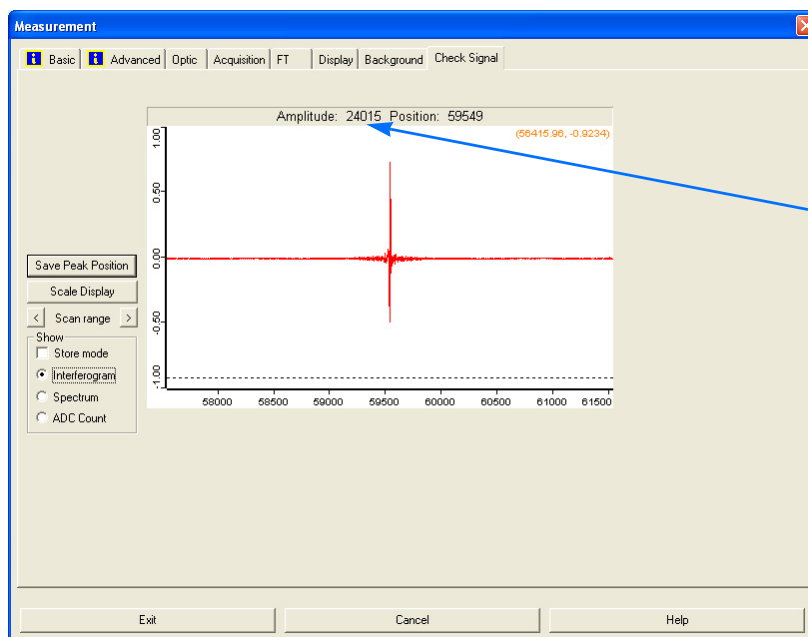

Figure 4: Checking the Signal
- Load an existing standard experiment file (*.xmp) for transmittance measurements with the microscope. Then click on the *Check Signal* tab. See figure 4. (For detailed information about this dialog window refer to the OPUS Reference Manual.)
- To find out whether the displayed signal is sufficient, compare the displayed amplitude value (see figure 4) with the one written down in the form *Hyperion MIR Acceptance Measurements*. (You will find this form in the blue ring binder containing the final test results delivered with the microscope.) Both values should be more or less the same.